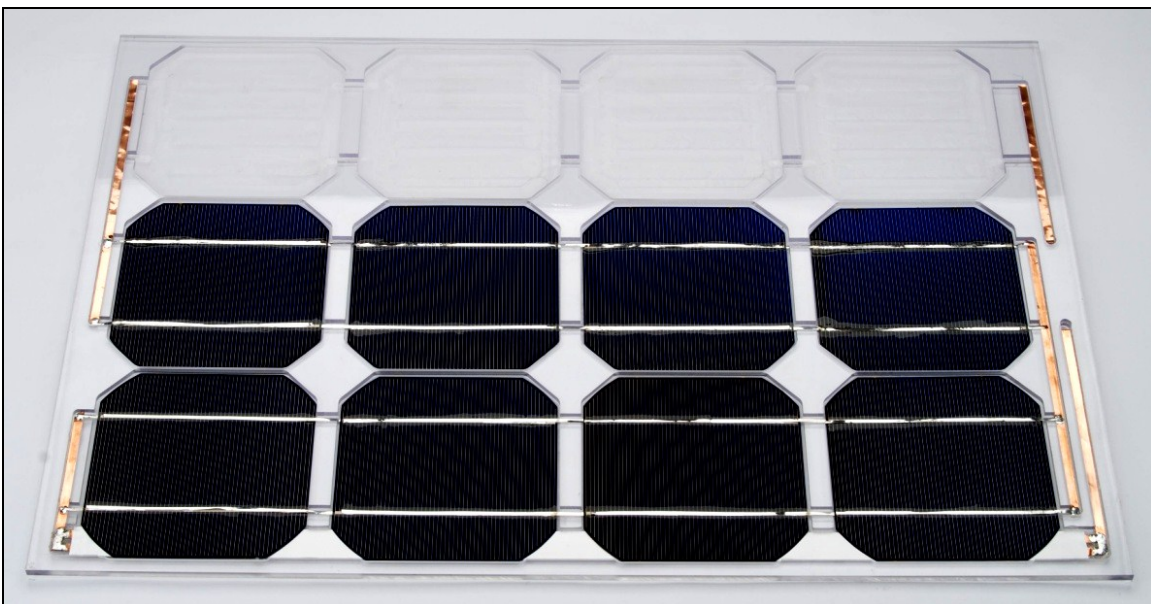

Figure 30
- ✓ Cut two 5.25" tabbing wires and solder them to the bus-bar in groove "B," and then lay them across the top of the cell in cavity #8, and solder. Don't forget to use flux across not only the top of the cells, but also the top of the tabbing wires. Your panel should now look like Figure 30.